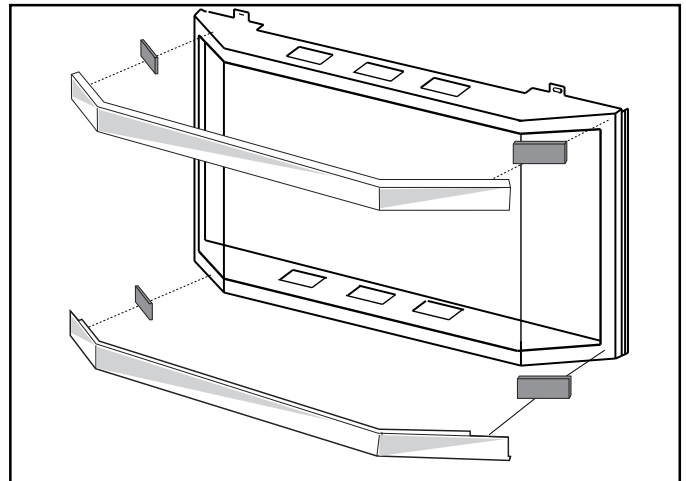

Fig. 23. Attach magnets and brass trim to the steel frame.
- 5) Install brass trim to the steel frame as per Fig. 23 (Only for HESBTKP trim)
- 6) Install brass trim to the steel frame as per Fig. 23.